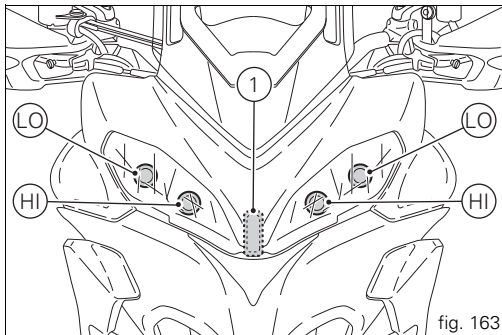

fig. 163
fig. 163 shows the locations of the low beam bulbs (LO), high beam bulbs (HI) and the parking light bulb (1).